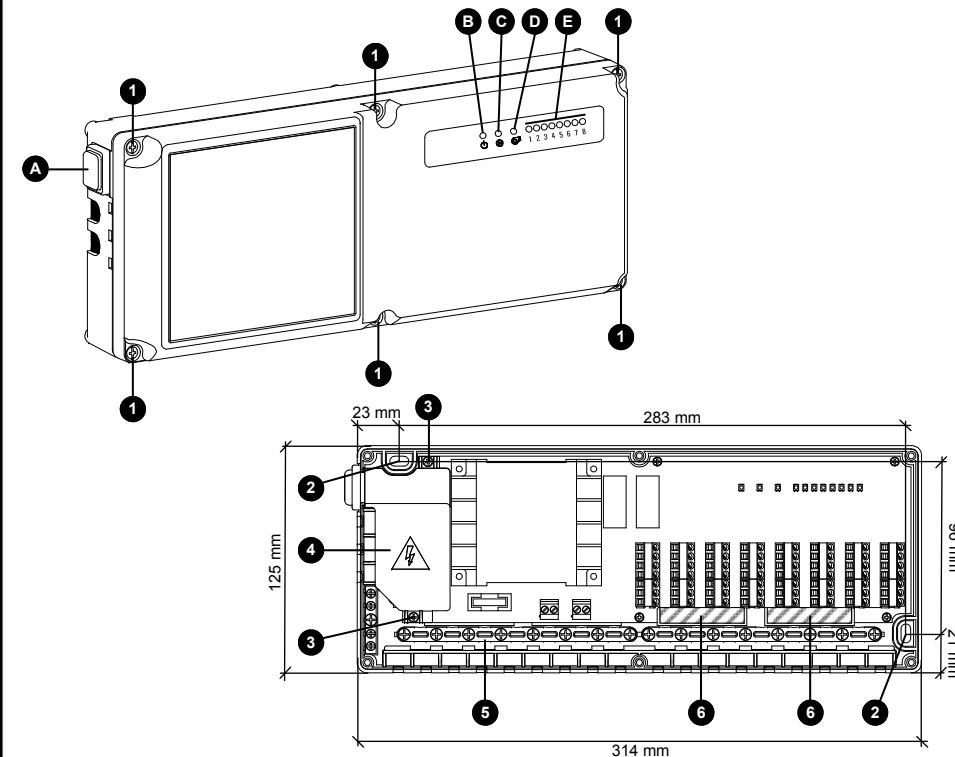

Fig. 1: Internal view and parts.
- Fix the device base to the wall by using the two screw holes labelled 2 in Fig. 1.
- Remove the 2 screws labelled as 3 in Fig. 1 then remove the plastic cover labelled as 4 in Fig. 1.
With the help of a screwdriver, remove the plastic knock-outs from the base, see item 6, Fig. 1. Cables can then be taken through the backplate to the terminal connections.
Green LED: power supply 'ϕ' (B Fig. 1)
Red LED: pump output activation '⊕' (C Fig. 1)
Red LED: boiler output activation '⊗' (D Fig. 1)
Actuator outputs state LEDs '1' .. '8' (E Fig. 1)
ON / OFF illuminated switch (A Fig. 1)
The illuminated switch at the lower left hand side of the wiring centre will isolate the whole of the wiring centre except the parts under the plastic cover, item 4, Fig. 1, to allow access to thermostats and actuators for testing and fault finding during installation.
- Remove the 6 screws labelled as 1 in Fig. 1 then remove the front plastic cover.